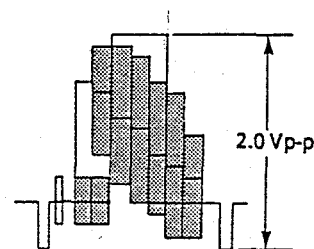

Figure 2-8.
2. Hook up the oscilloscope to pin ⑨ of IC201. Adjust R201 (playback level control) so that the on-screen waveform be $2.0 \pm 0.1\text{Vp-p}$ as shown in Figure 2-8.